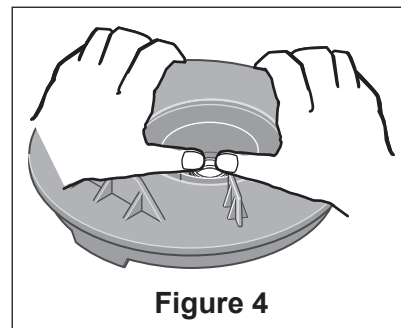

Figure 4
11. Place seal plate face down on a flat surface and tap out white ceramic seal (see **Figure 4**).